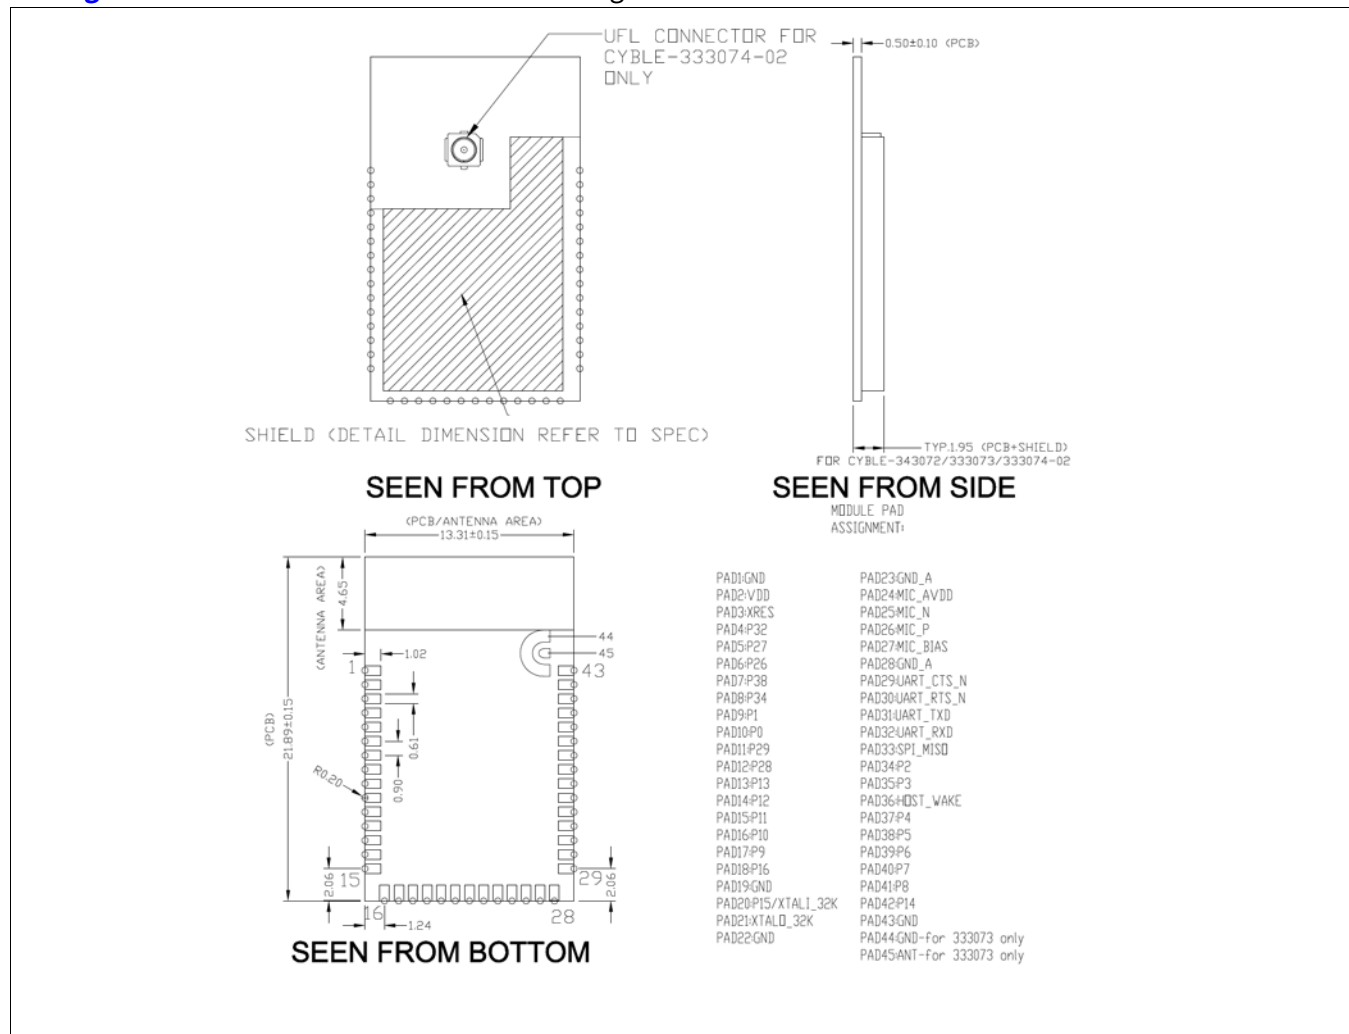
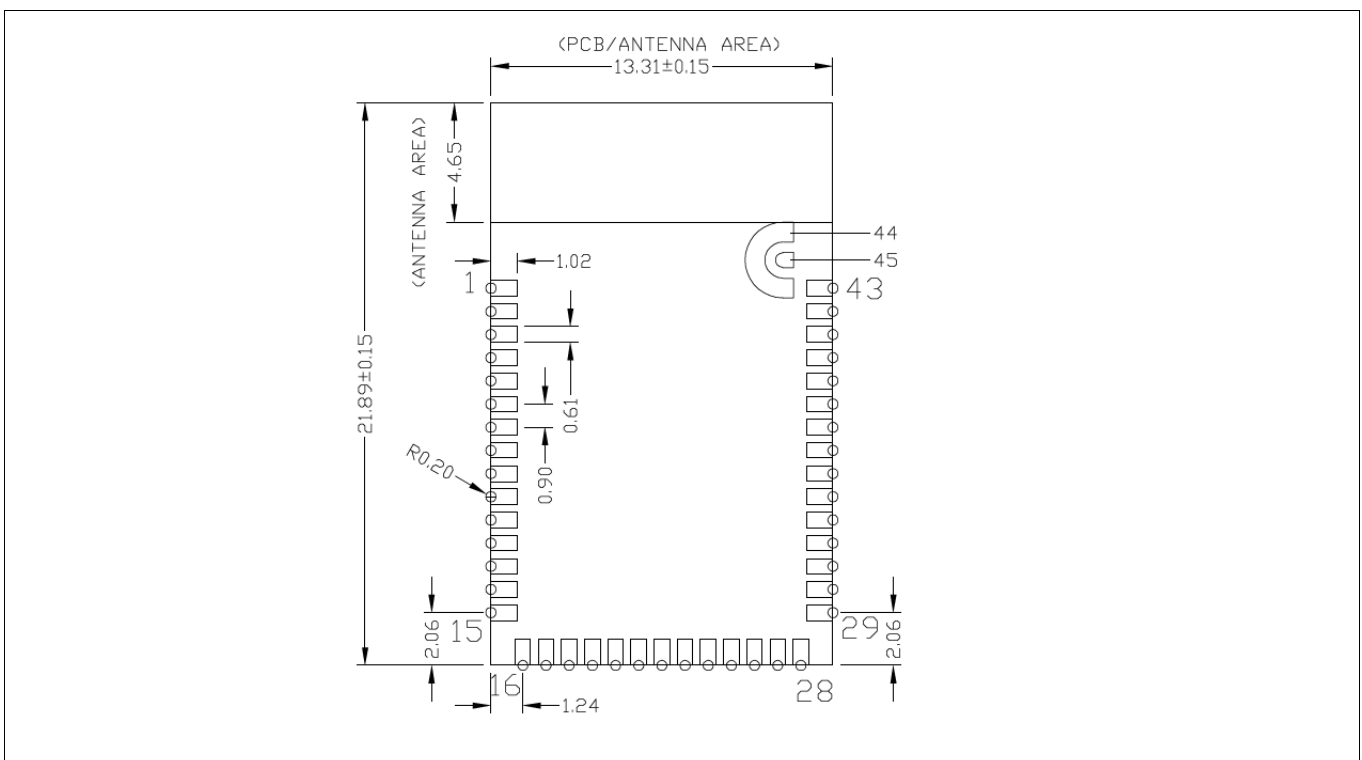

Figure 2 Module mechanical drawing
Figure 3 Solder pad dimensions (seen from bottom)
Infineon reserves the right to select components from various vendors to achieve the Bluetooth® module functionality. Such selections will still guarantee that all mechanical specifications and module certifications are maintained. Designs should be held within the physical dimensions shown in the mechanical drawings in **Figure 2 on page 7**. All dimensions are in millimeters (mm).
See Figure 2 for the mechanical reference drawing for CYBLE-3x307x-02.
As shown in the bottom view of Figure 2 on page 7, the CYBLE-3x307x-02 connects to the host board via solder pads on the backside of the module. Table 2 and Figure 3 detail the solder pad length, width, and pitch dimensions of the CYBLE-3x307x-02 module.
1. Antenna Area Keepout: The host board directly below the antenna area of the module (see Figure 2 on page 7) must not contain ground or signal traces. This keepout area requirement applies to all layers of the host board.
2. Module Placement: The ideal placement of the Bluetooth® module is in a corner of the host board with the PCB trace antenna located at the far corner. This placement minimizes the additional recommended keepout area stated in item 2. Refer to AN96841 for module placement best practices.